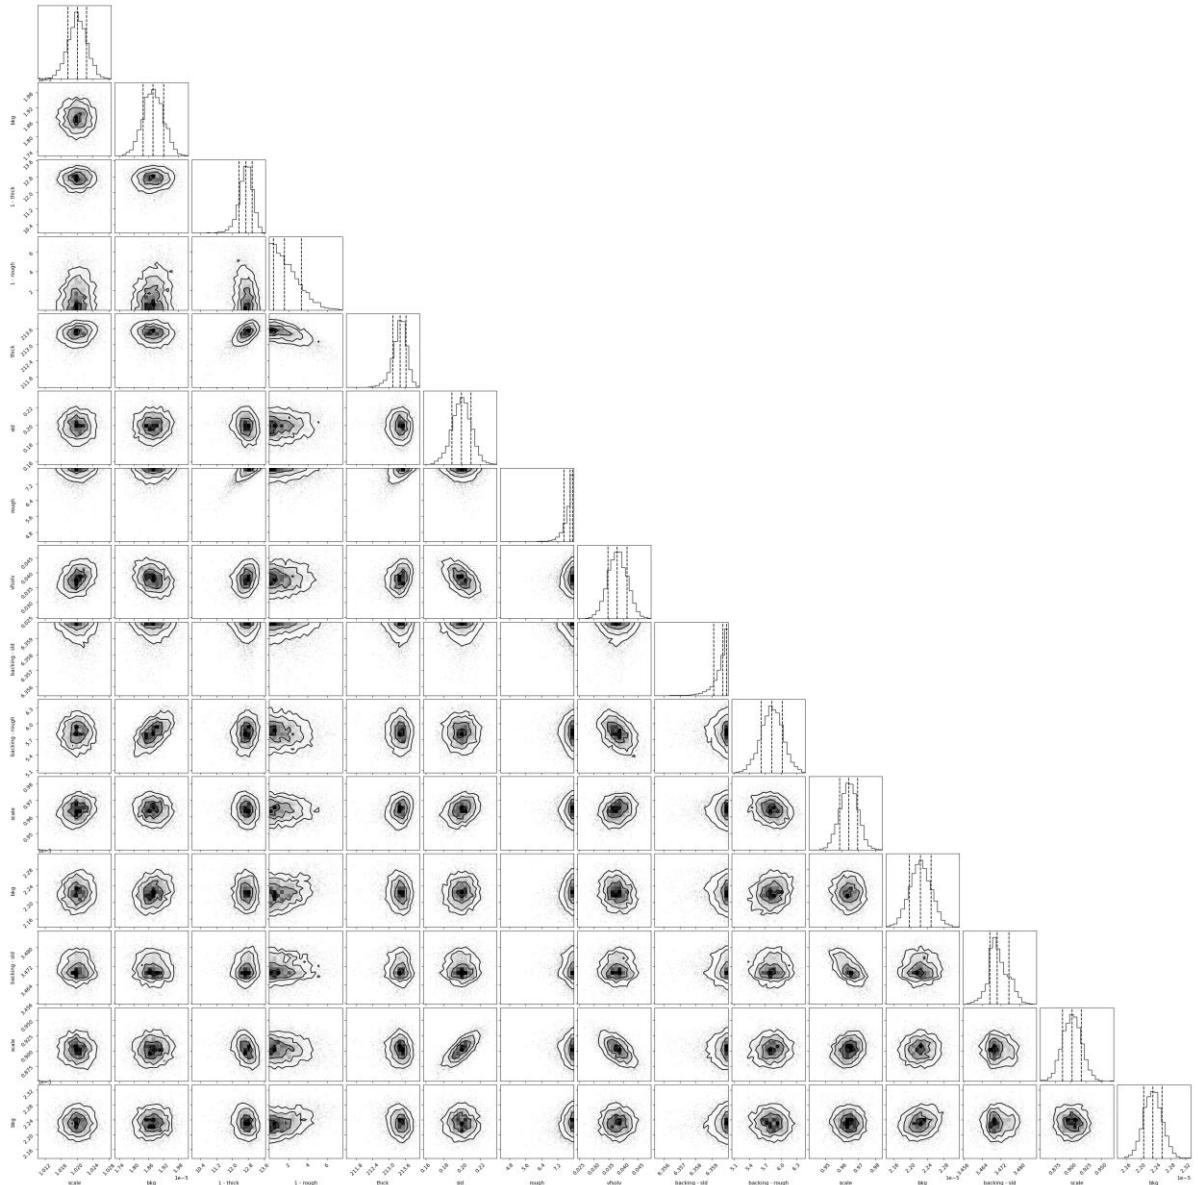

Figure 16
- The "steps_corner.png" image shows the covariance matrix for the system, Figure 16. If you look at the polymer roughness parameter (7th column from left) you can see that the distribution is truncated and is butting up against the upper limit of 8. Perhaps we should've set a higher upper bound.